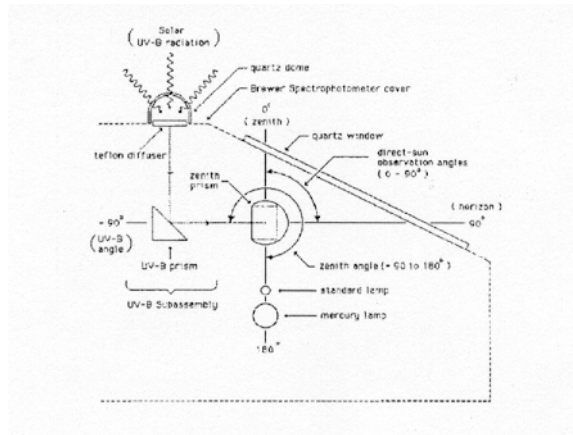

Figure 1: Spectrometer Targets for Various Zenith Angles
6. Locate the zenith prism assembly, which is mounted in the area of the instrument under the quartz window when the outer case is on. Refer to Figure 1 below (Figure 2-3 "Spectrometer Targets for Various Zenith
7. Locate the SL lamp base, inside which the SL bulb is mounted, directly under the zenith prism. Refer to Figure 1. The SL lamp lies in the horizontal plane and is hidden from view inside the zenith prism assembly. Only the base that the bulb is mounted in is visible. When looking from the direction of the slanted quartz window, the base plate is located in the plane of the long edge of the Brewer and it has two wires for power leading into it.